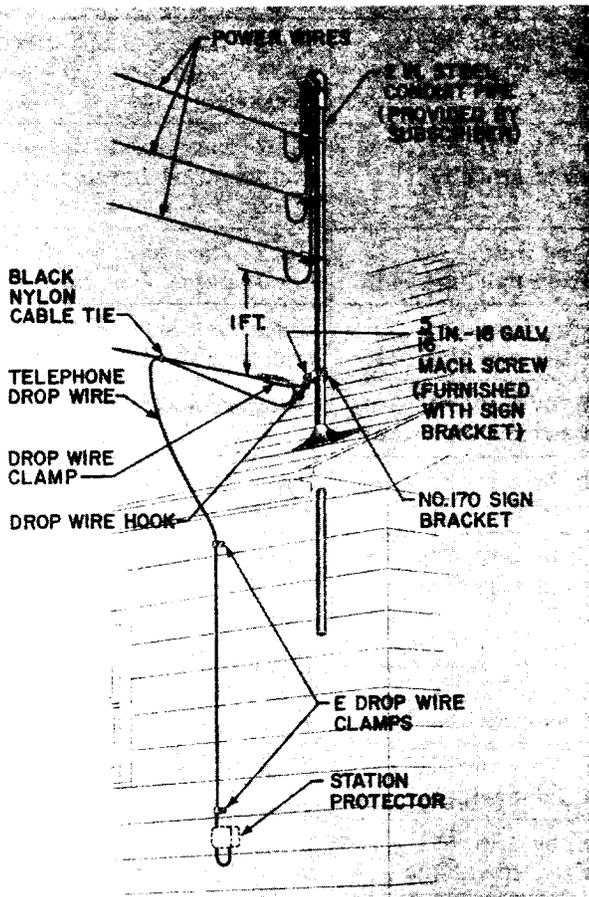

Fig. 16—Drop Wire Attachment to Power Fixture
6.01 Figures 16 through 21 show types of clearance fixtures commonly provided by subscribers and the recommended methods of making drop wire attachments. Where other types of fixtures are provided and different methods of drop wire attachments are required, local instructions should be issued.